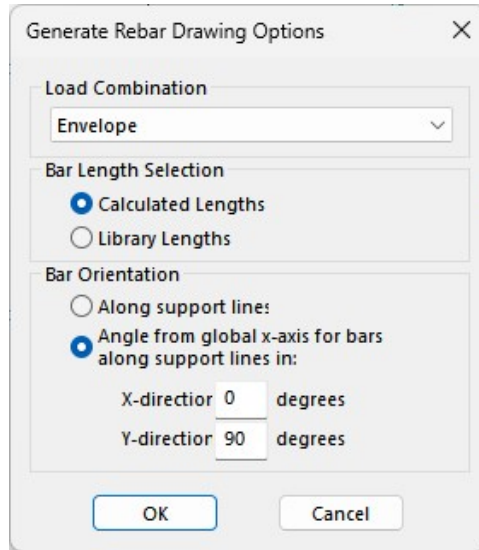

Figure 4.2-11 - Generate Rebar Drawing Options
- Once the design of sections is complete, use the menu item **Floor Design | Rebar | Calculated Rebar Plan**  to display the rebar required to meet demand for serviceability, strength or envelope. The dialog box as shown in **Figure 4.2-11** will be displayed.
- The user can select any of the load combinations defined in the model to view rebar for. Note that when the ACI318 code is selected, no rebar will be generated for serviceability conditions as the code waives temperature and shrinkage reinforcement for soil supported slabs. You may choose the **Bar Length Selection** and the **Bar Orientation**, and then click **OK**. If the orientation of the bars is **Along support lines**, the reinforcing is aligned parallel to the support lines even if they are not in the X-Y directions. The selection of an angle generates rebar layouts for those directions. The **Dynamic Rebar Module** calculates the required reinforcement for the direction selected. For this tutorial, specify **Library Length** and to have desirable rebar length and bar orientation along global X and Y axis as shown in **Figure 4.2-11**.